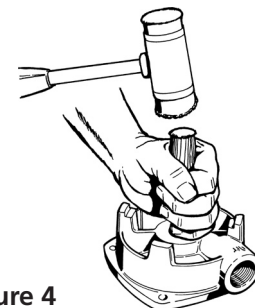

Figure 4
2. Remove the four (4) M6-1 X 80mm bolts (Ref. No. 8) from the cover (Ref. No. 2).
8. To remove the seat (Ref. No. 6B). Refer to Figure 4. Place the motor bracket face down on a clean flat surface. Look into the opening in the center of the motor bracket, and you will see a portion of the seat. Insert the 11/16" dowel and, very gently, tap the seat until it drops out. Care must be taken with the seat. It is often a brittle material and is prone to breakage. **It is recommended that a new replacement seat be installed during reassembly.**